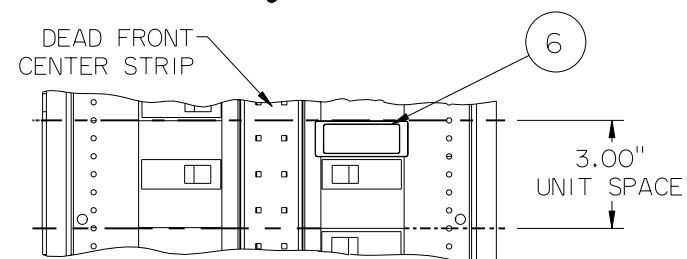

Figure 8
15. Refer to figure 8. - Insert 1" dead front fillers (item 6) into all P2 & P3 dead front branch spaces not filled with breakers.